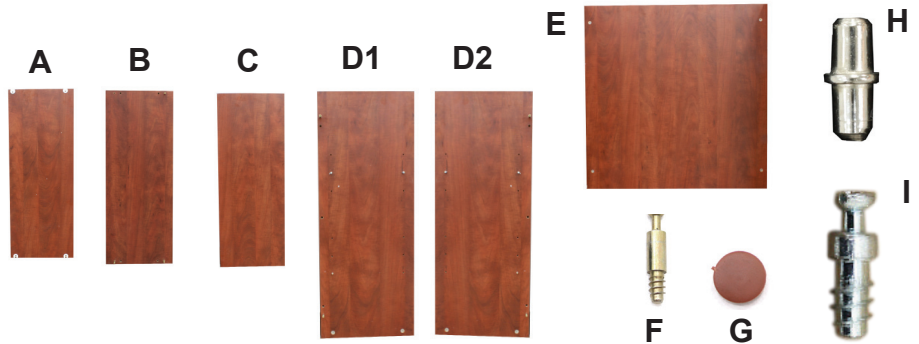

Figure 1: To open Cam, point arrow toward Cam Pin hole. To lock Cam, turn clockwise.
Insert 2 cam pins into each side (D1, D2). Attach to Top by inserting Cam pins into cam locks. Lock Cams (Figure 1) *Note: Be sure shelf pin holes are facing in.*
Step 2a: Attach back (E) to top (C) and side (D1) by inserting cam pins into cam locks and tightening (Figure 1).
Step 2b: Next, attach right side (D2) by inserting cam pins (F) into holes on back (E) and top (C) and tighten cams (Figure 1).